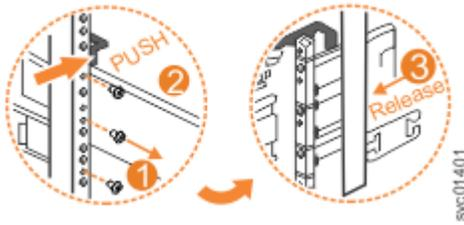

Figure 123. Remove the rail assembly from the rear frame bracket
3. Remove the two screws that attach the inner rail section to the rear bracket, as shown in Figure 123 on page 187.
4. Pull the rail forward away from the rear bracket, as shown in Figure 123 on page 187.